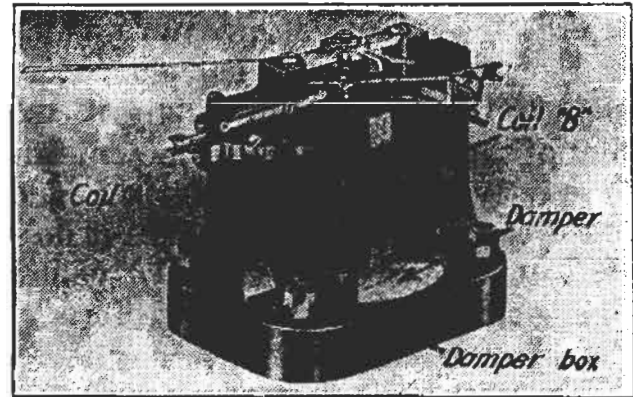

FIG 20. This electro-dynamometer does not use a permanent magnet.
**Electrodynamometer.** This meter is a moving-coil type, but is quite different from the D'Arsonval meter. No fixed magnet is used; instead, the field is produced by an electromagnet, and the moving coil has an air core. Figure 20 shows a typical electro-dynamometer. Coil  $A$  is the field coil, which may be wound on any suitable coil form. The inner coil  $B$  is the moving coil, made so it can rotate within coil  $A$ . The two coils are connected in series. When current flows through the coils, both develop magnetic fields proportional to the current strength and the number of turns on each coil. This